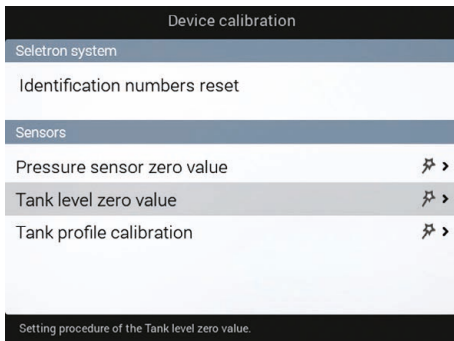

Fig. 143
- 1 Select **Tank level zero value** (Fig. 143) and press **OK**.